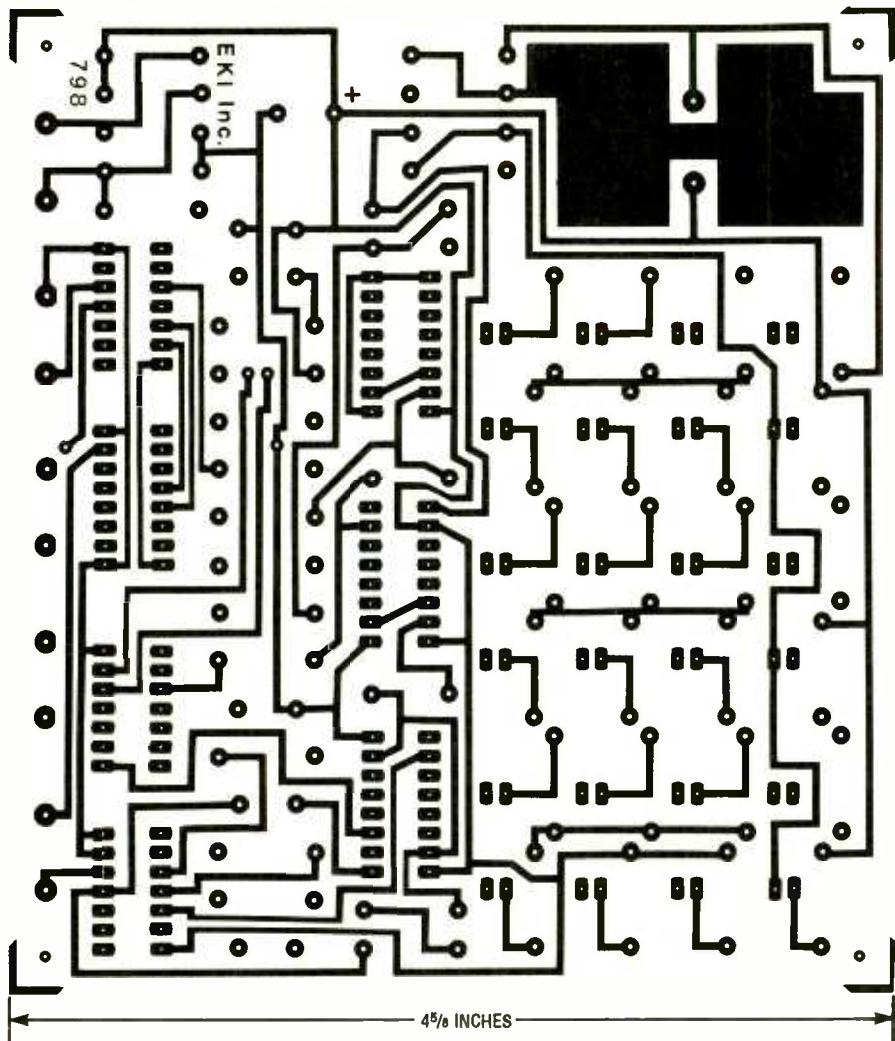

Fig. 3. Here's the foil side of the Binary Clock's double-sided printed-circuit board.
*Fig. 3. The inductors for the home-brewed radio were hand-wound on a 4-inch length of 1/4-inch diameter PVC pipe. Inductor L1 consists of 35 turns of number 24 or 26 enameled wire, while L2 consists of 85 turns of the same enameled wire wound on the same pipe in the same direction.*